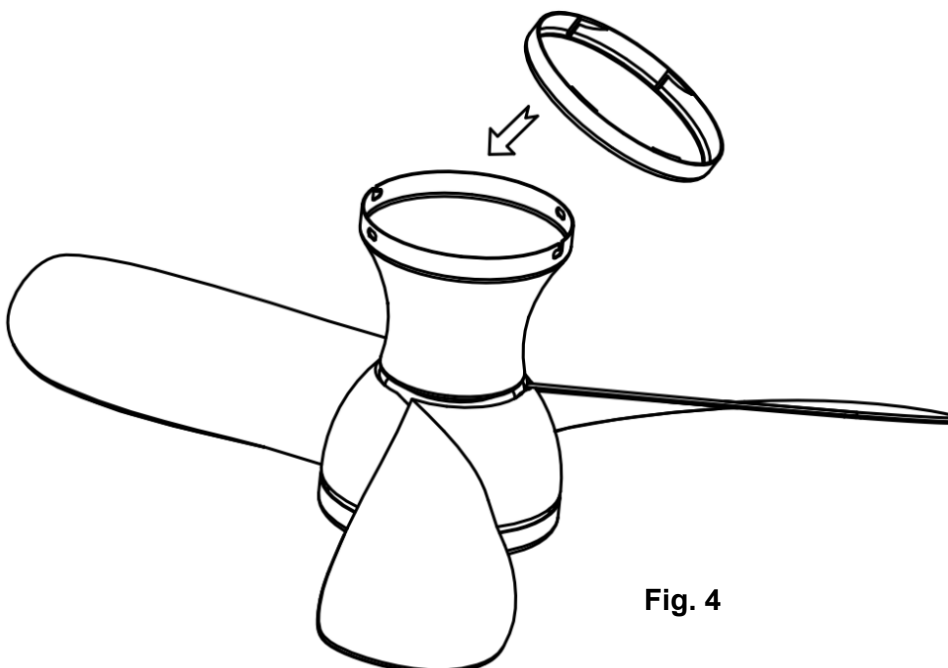

Fig. 4
- Install the decorative ring onto the fan assembly. (Fig. 4)